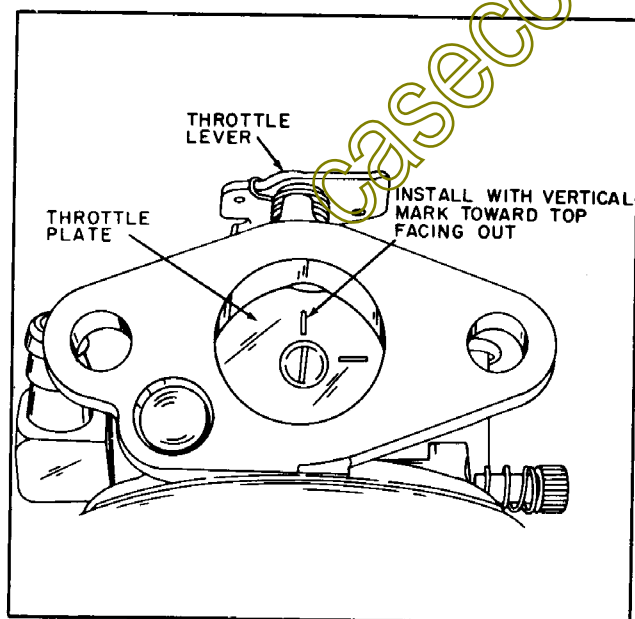

Figure 4-2
- a. Remove the screw in the center of the throttle plate and pull out the throttle shaft lever assembly. (Figure 4-2)
- b. When reassembling, it is important that the lines on the throttle plate (Figure 4-2) are facing out when in the closed position. Position throttle plates with two lines, at 12 and 3 o'clock. The throttle shaft must be held in tight to the bottom bearing to prevent the throttle plate from riding on the throttle bore of the body, causing excessive throttle plate wear and governor hunting.